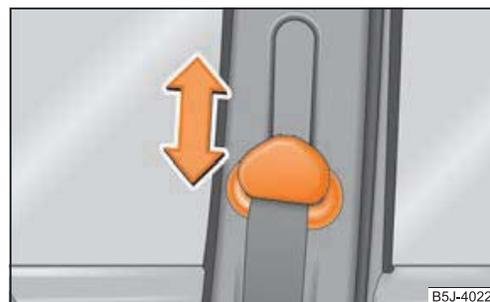

Fig. 113 Front seat: Seat belt height adjuster
- To adjust the belt height press the height adjuster and move it up or down ⇒ fig. 113.